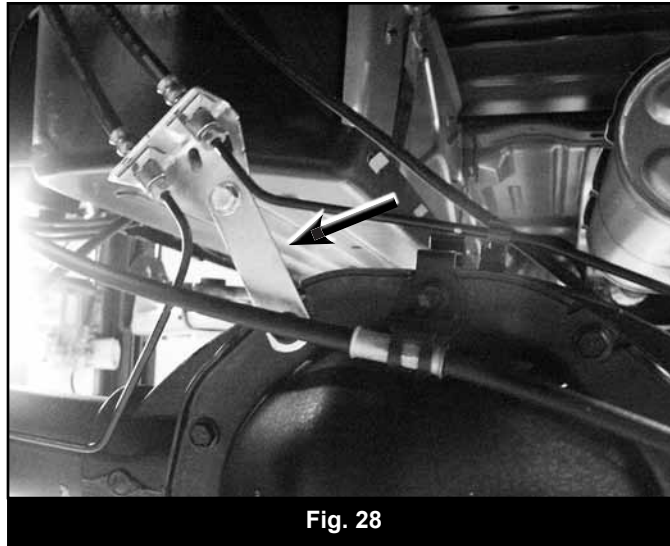

Fig. 28
29. Install the provided brake line bracket (SBLA) to the top of the differential using OE mounting hole and hardware. Attach the OE brake line bracket to the relocation bracket with a 5/16" x 1" bolt, nut and washers (BP 628). Torque the OE and 5/16" bolt to 20 ft-lbs (Fig 28).